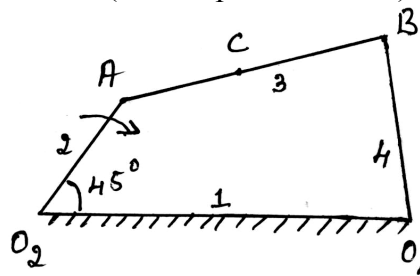

Fig Q3(b)
- b. The Fig Q3(b) shows a four bar mechanism crank O_2A rotates at 200rpm and an angular acceleration of 150rad/sec^2 at an instant when the crank makes an angle of 45° to the horizontal. Find the acceleration of points B and C, and angular velocities and angular acceleration of link 3 and 4. (use Graphical method)